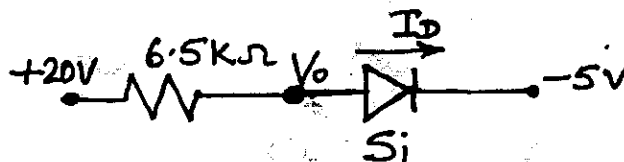

Fig.Q2(c)
- c. For the diode circuit shown in Fig.Q2(c), determine V_0 and I_D .